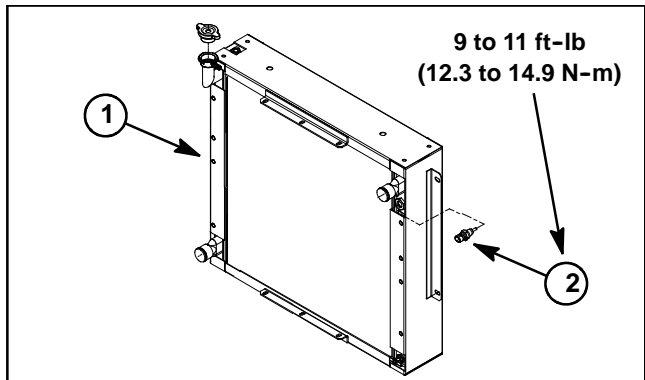

Figure 50
A. Install new O-ring on sender and thread sender into port. Torque sender to values identified in correct illustration (Fig. 50 or 51).